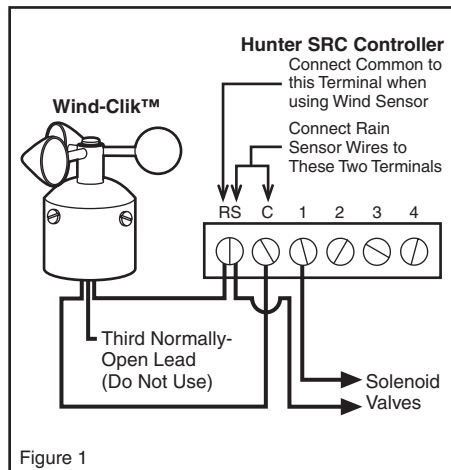

Figure 1
2. Connect one wire to the RS terminal and other to the C terminal (See Figure 1).
If the best location for temperature sensing is not a feasible location for mounting the Freeze-Clik, an alternate location may be chosen if, in addition, a “sun guard” is used (a piece of flashing, for example) to shade the Freeze-Clik during that time of day that the sun could hit it (see Figure 1)